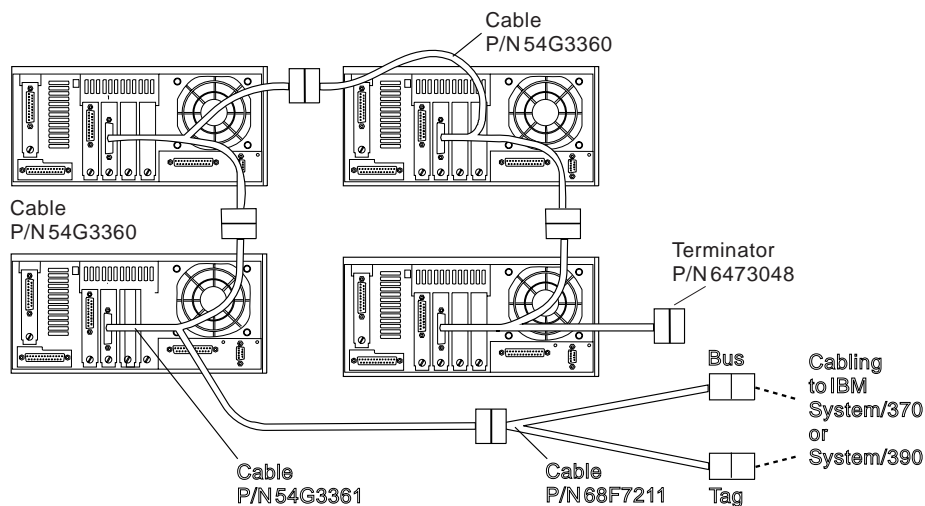

Figure C-4. BMCA cabling to a multiple processor nodes
1. Determine which processor node will be the first in the string and then connect cable part number 54G3361 to the BMCA adapter card in that node as shown in Figure C-4 on page C-4.